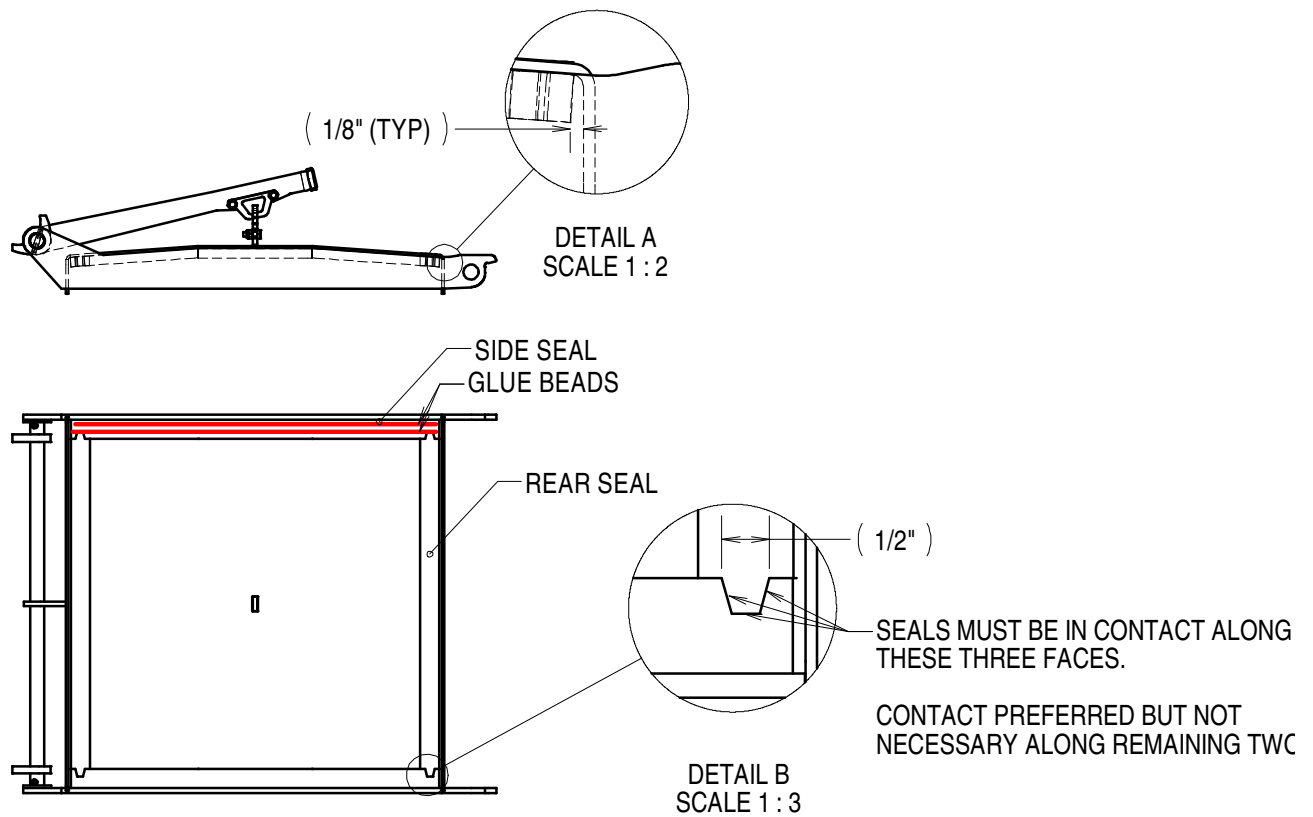

Figure 11.53 - Tank Lid Seal - Glue/Seal Requirements
8. Install front and rear seals using same procedure. Ensure seal contact in joint is as indicated in *Figure 11.53*.